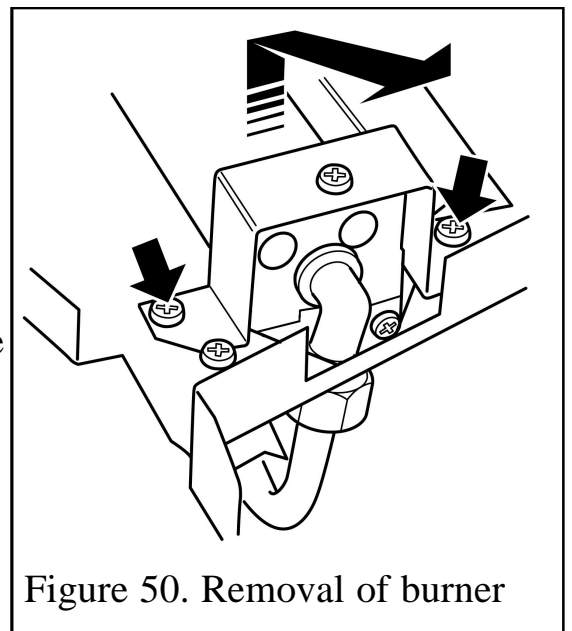

Figure 50. Removal of burner
(See figure 50).
3. Remove the two screws from the burner clamping plate (See figure 50)